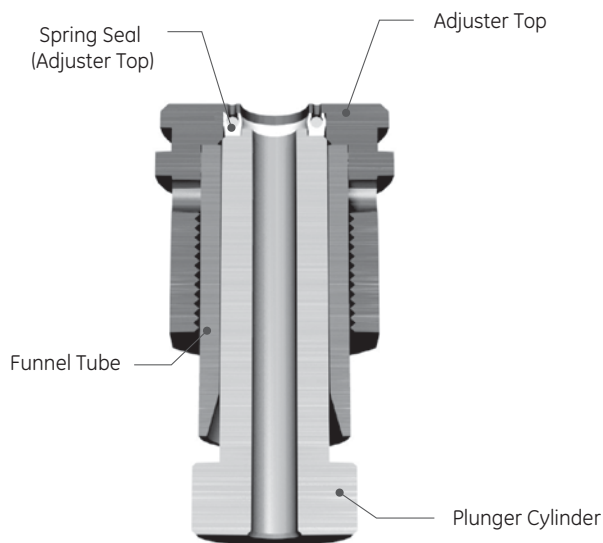

Figure 28: Plunger Cylinder
- viii. Push down on plunger cylinder to insert spring seal (adjuster top) into adjuster top as shown in Figure 28.